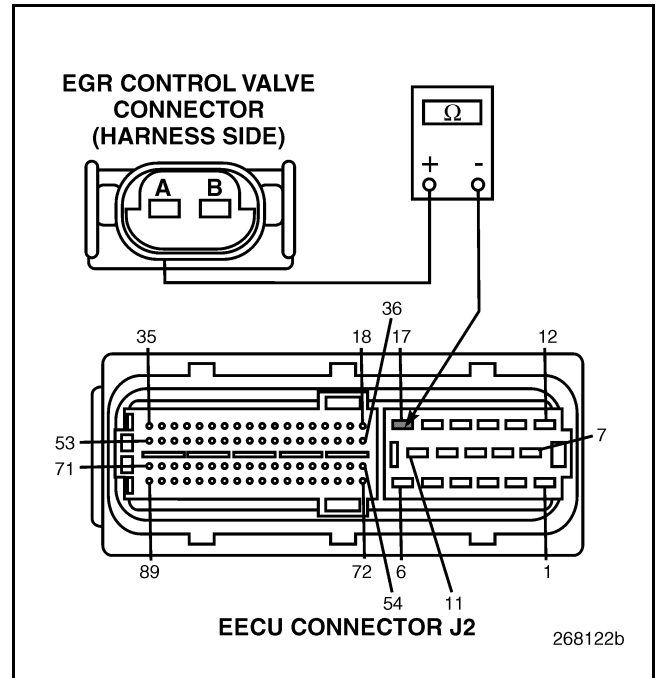

Figure 527
4. Check for continuity between EECU harness connector J2 pin 17 and pin A at the EGR Control Valve connector (see Figure 527).